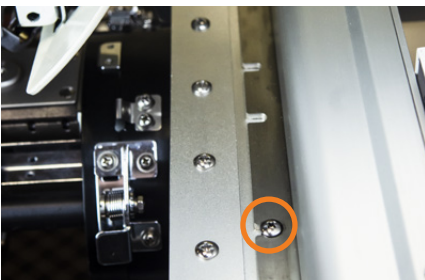

Figure 38
1. Using the Phillips screwdriver included in your toolkit, loosen the screws that connect the cap driver to the pantograph. **See Figure 38.**